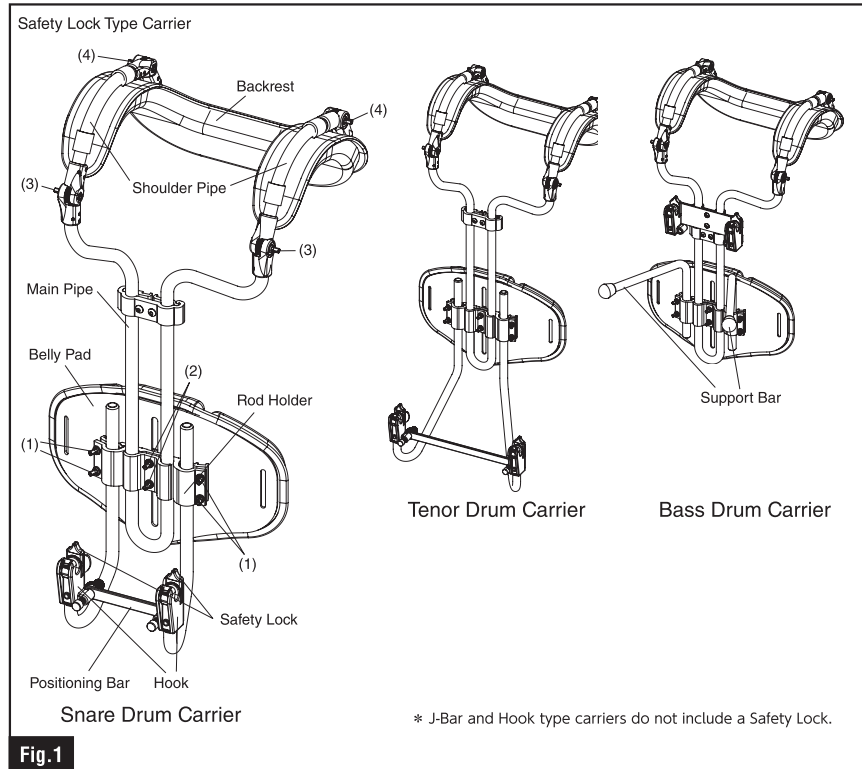
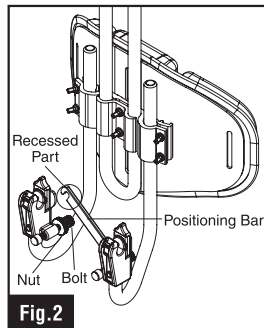

Fig. 1
Fig. 2
J-Bar Mount Installation (Fig. 1)
The J-Bar comes installed backwards. Use a tuning key to loosen the four square head bolts (1) on the rod holder, remove the J-Bar, then install it in the direction as shown in Fig. 1.
Shoulder & Backrest Adjustment (Fig. 1)
Positioning Bar Adjustment (Fig. 2)
First, match the J-Bar width to the snare and tenor attachments by loosening the square head bolts (1) in Fig. 1. Once the width position is fixed, tighten the square head bolts to secure the J-Bar in place. Then, as shown in Fig. 2, insert the recessed part of the positioning bar over the bolt and tighten the nut to fix it in place.
J-Bar Height Adjustment (Fig. 1)